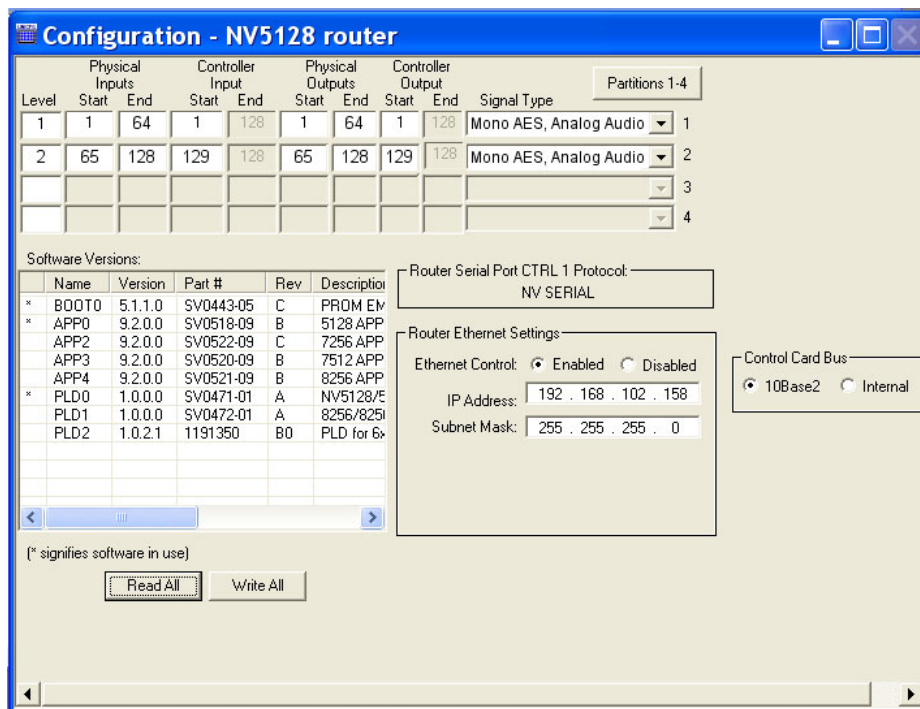

Figure 8-9. Typical UniConfig Settings for Overlapping Partitions
Rudimentary channel swapping capability can be enabled even with router control systems that do not directly support it. Figure 8-9 shows typical UniConfig settings for channel swapping:
- When entering connection data into the control system, create entries for each device on both partitions, as shown in Figure 8-9.